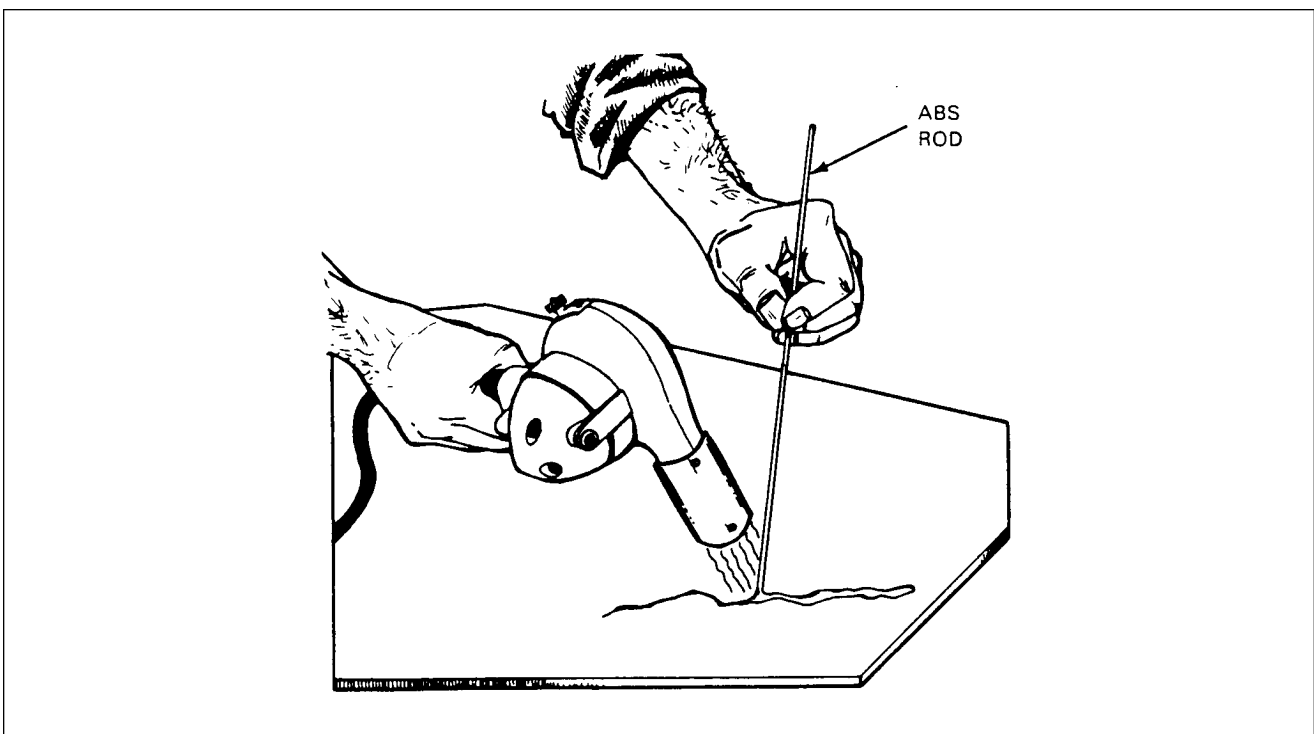

Figure 51-5. Welding Repair Method
- i. The welding method requires a hot air gun and ABS rods. To weld, hold gun to direct the flow of hot air into repair zone. Heat damaged area and rod simultaneously. Move the gun continuously in a fanning motion to prevent discoloration of material. Pressure must be maintained on rod to ensure good adhesion. (figure 51-5)